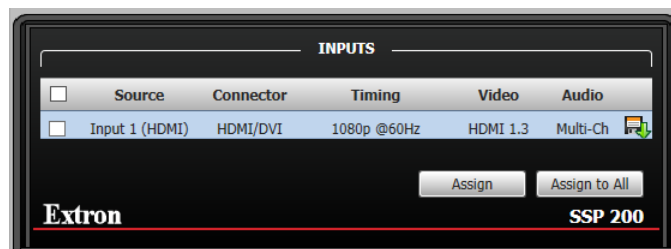

Figure 35. Inputs Panel
- **INPUTS** — Displays the current EDID of the connected input (see figure 35).